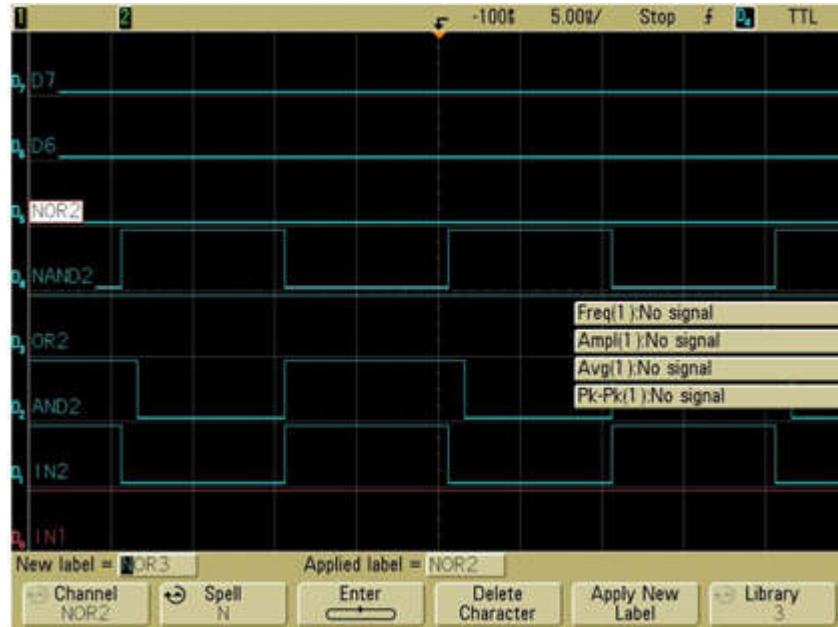

Figure 9: Oscilloscope capture.
- Q5.** Take a snapshot of the scope output similar to Figure 9 (make sure you have proper names of the signals); take one snapshot when the input is 0 and another snapshot when the input is 1. You can do that by pressing the save softkey, you will need to insert a flash drive into the MOS to save it.